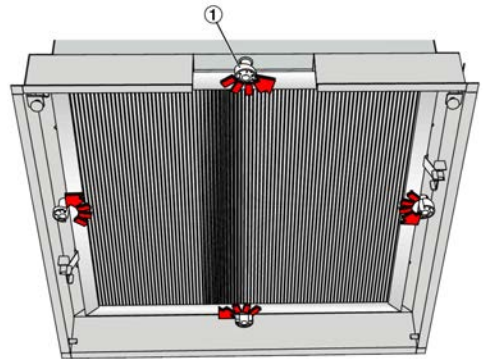

Fig. 9: Open the turn clips.
2. ▶ Open the turn clips (x4 Fig. 9/1) in an anti-clockwise direction. To do this, use the key provided or a commercially available Allen key (SW10).